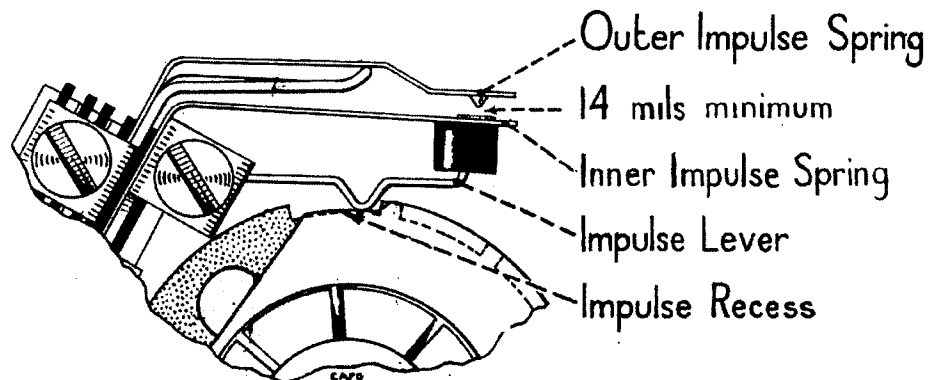
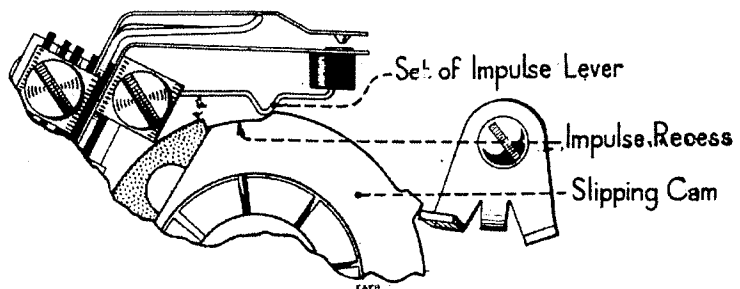

FIG. 17. ADJUSTMENT OF IMPULSE SPRINGS (IMPULSE LEVER IN CORRECT POSITION)
FIG.18. INCORRECT POSITION OF IMPULSE LEVER
6. Movement of slipping cam. There should not be a sudden increase in radius from the neutral portion of the impulse wheel to the edge of the slipping cam. This may be checked, *after the spring-set has been fitted*, by slowly moving the cam forward by hand and noting that the movement is smooth and that a bump is not evident as the edge of the cam meets the V-shaped portion of the impulse lever (see Fig.17).
11. Contact openings. The opening of the impulse contacts should not be less than 14 mils when the impulse lever is resting in the impulse recess of the slipping cam. The impulse lever is shown resting correctly in the impulse recess of the slipping cam in Fig. 17. Figs. 18 and 19 show incorrect positions of the impulse lever. The correct position can be obtained by bending the forked stop.